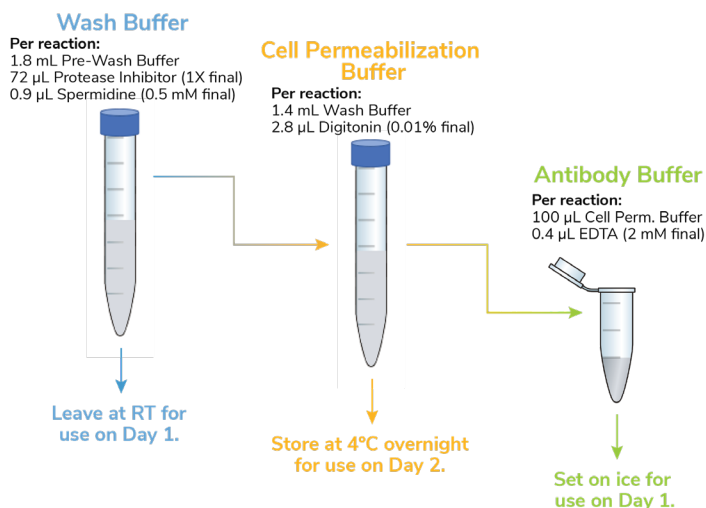

FIGURE 6
- * These buffers need to be prepared **FRESH** on Day 1 of the experiment (Figure 6).